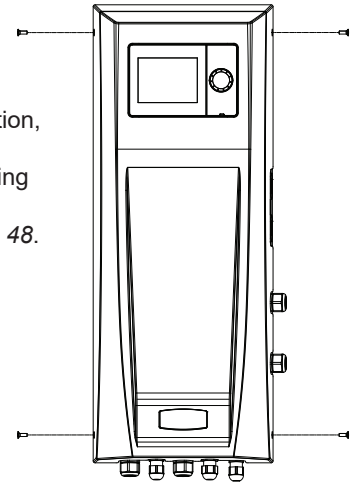

Figure 48. Front Panel Removal
- Remove Front Panel, refer to *Figure 48* and inspect all electrical connection for signs of damage / loose connections etc.
To allow for inspection, the casing must be removed by removing the four screws displayed in *Figure 48*.